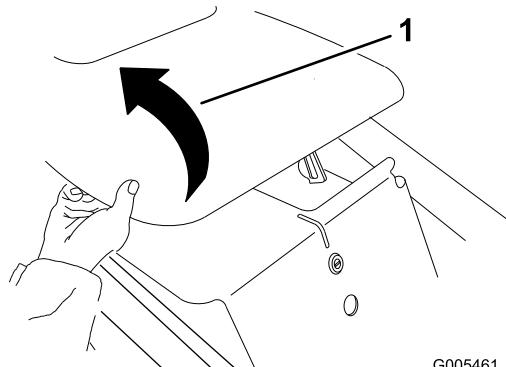

Figure 28
- Swing the hood up (Figure 28).